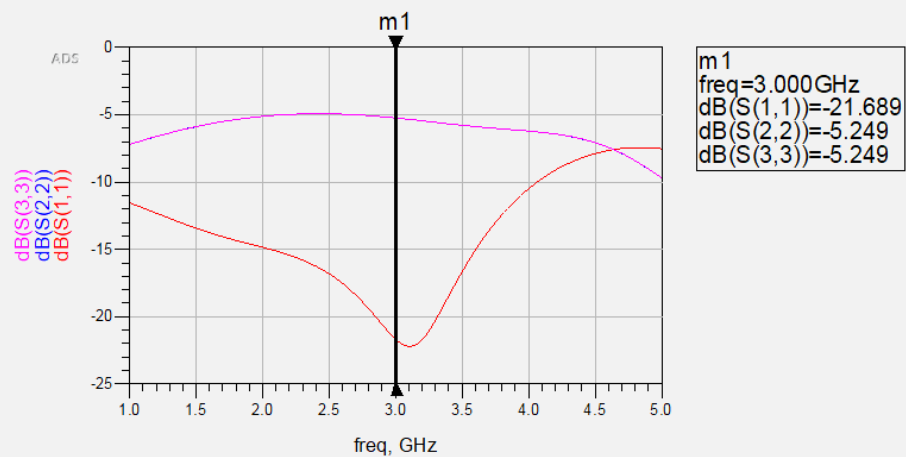

Figure 7.  $S(1,1)$ ,  $S(2,2)$ , and  $S(3,3)$  for the power divider
7. Run the simulation. The results are shown in Figures 7, 8, and 9.